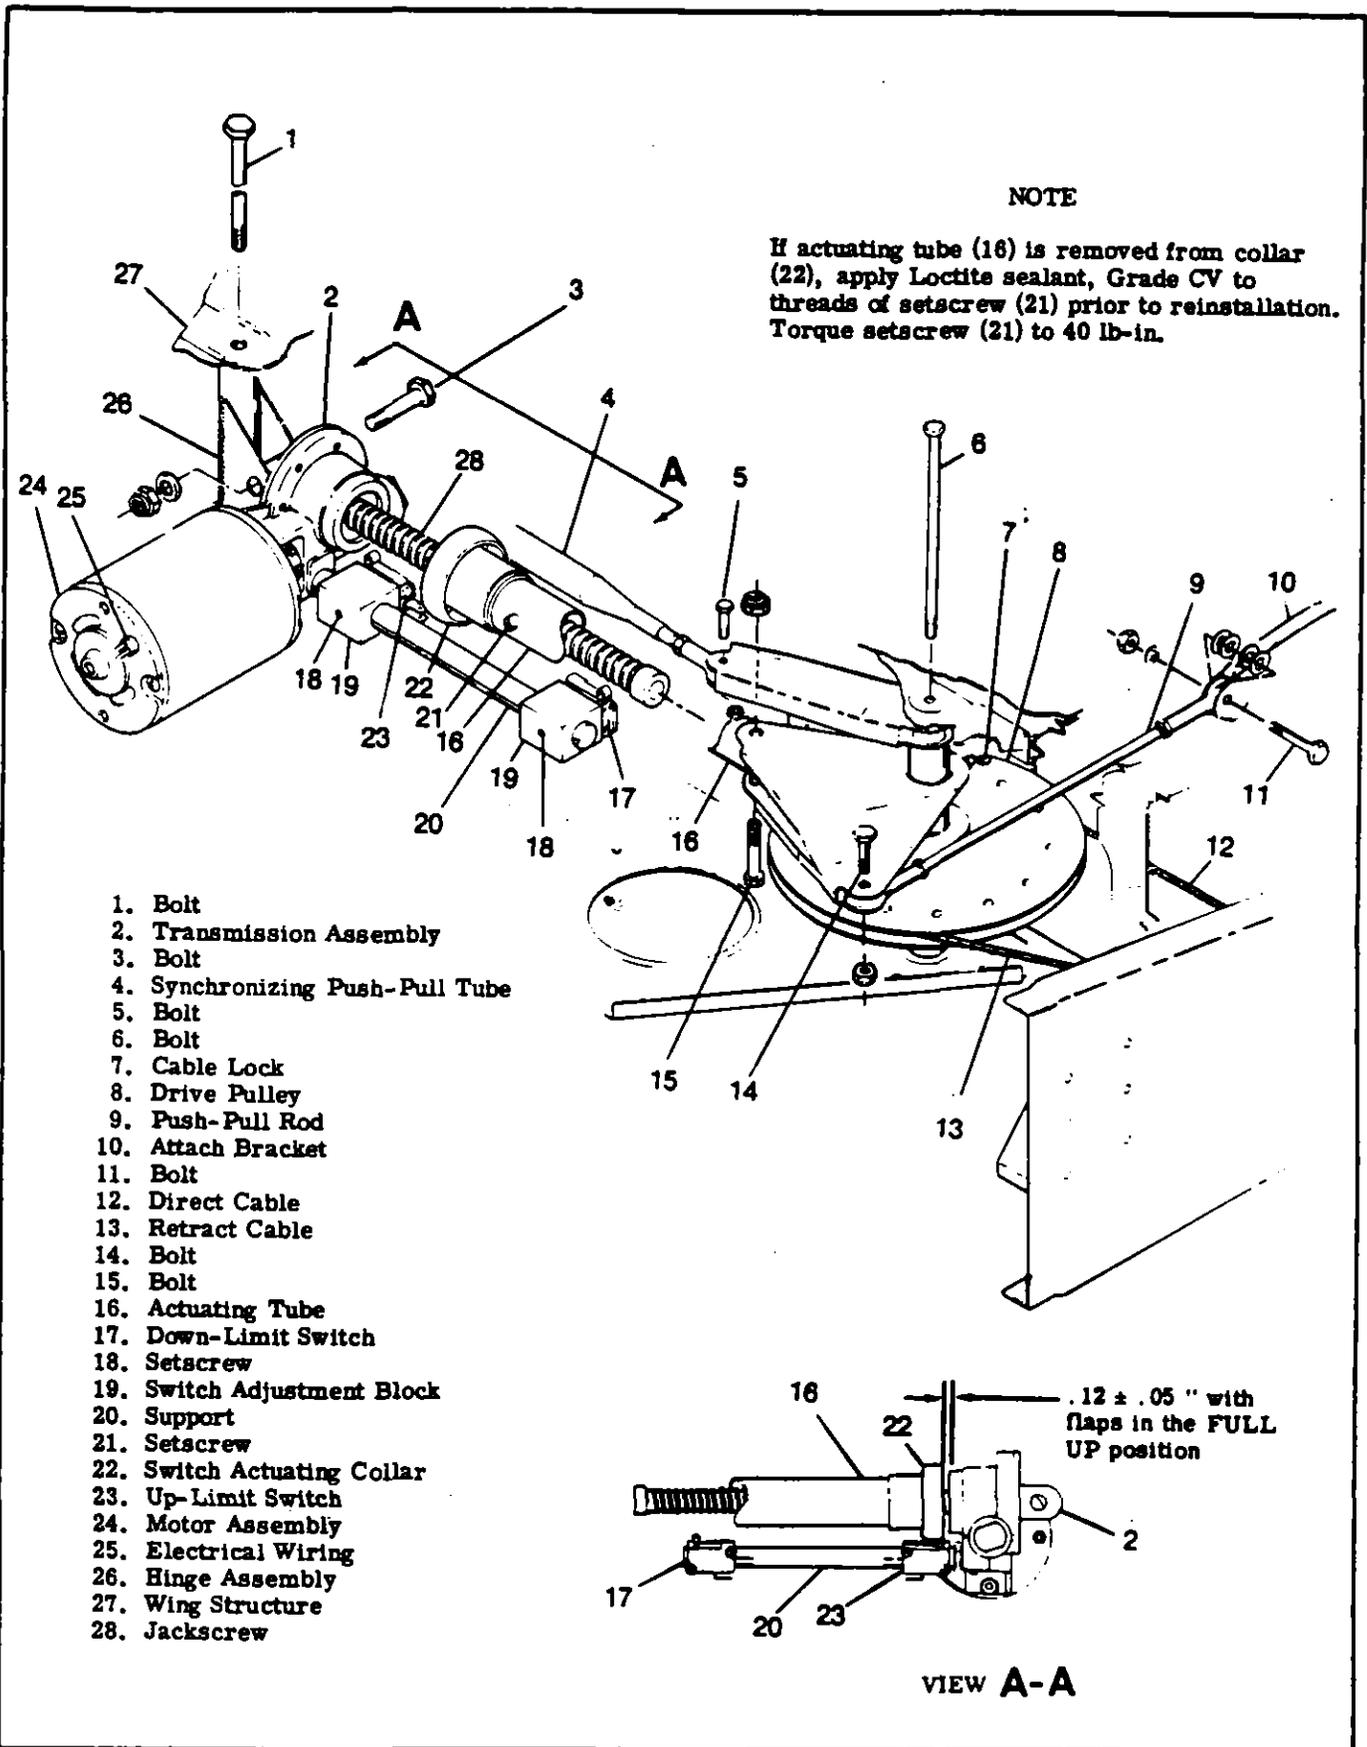
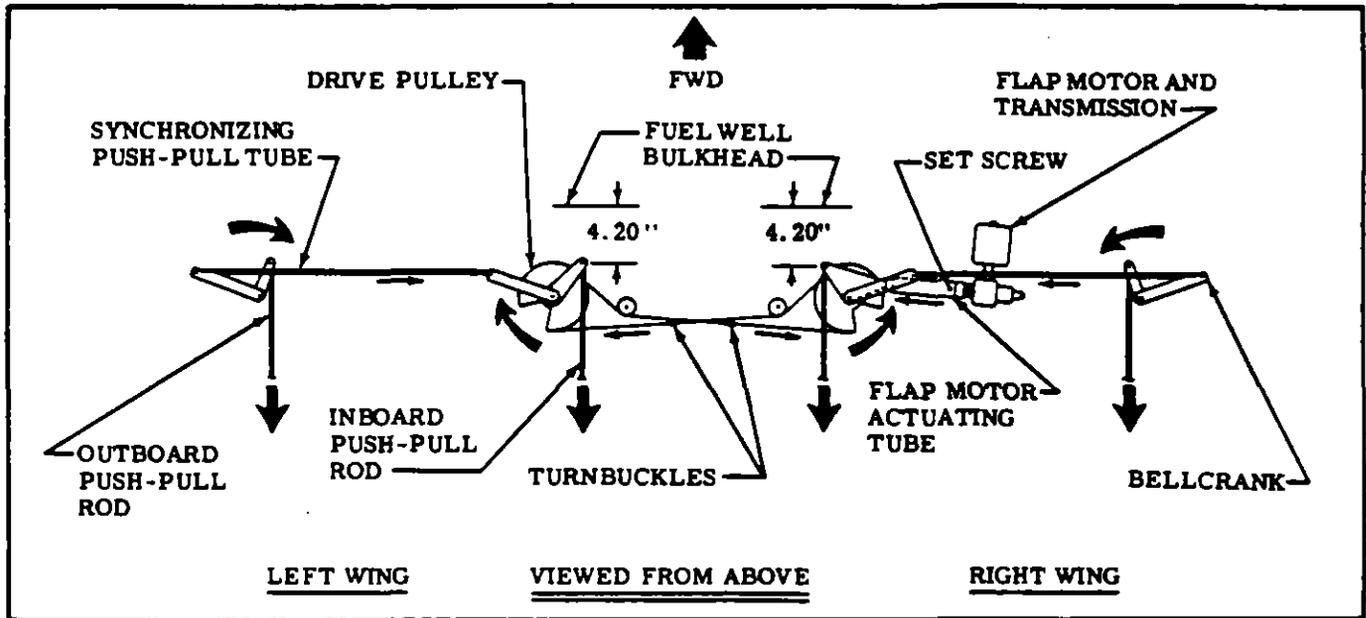

Figure 7-2. Flap Motor and Transmission Installation
Figure 7-5. Flap System Schematic
7-6. REMOVAL AND INSTALLATION (See figure 7-2.)
7-10. DRIVE PULLEYS. (See figure 7-2.)
7-21. RIGGING-FLAPS. (See figure 7-2.)
Ensure that the 3/32 inch retract cable is connected to the forward side of the right drive pulley and to the aft side of the left drive pulley and that the 1/8 inch direct cable is connected to the aft side of the right drive pulley and to the forward side of the left drive pulley. Ensure that the right drive pulley rotates clockwise, when viewed from below, as the flaps are extended. (See figure 7-5.)
- h. Adjust synchronizing push-pull tube (4) in RIGHT wing to 48.69 inches between centers of rod end holes, tighten jam nuts and connect to bellcrank and drive pulley.
- i. Adjust travel on flap motor so centerline of bolt hole for inboard push-pull rod is 4.20 inches aft of fuel well bulkhead. (See figure 7-5). Screw actuating tube (16) IN toward transmission (2) by hand to .12 inches between switch actuating collar (22) and transmission (2) see figure 7-2 VIEW A-A, loosen setscrew (21) securing actuating collar (22). Hold actuating collar to maintain .12 inches and adjust actuating tube IN or OUT as necessary to obtain 11.16 inches from centerline to centerline of actuator attach bolts (1) and (15) figure 7-2. Tighten setscrew (21) in accordance with figure 7-2 and secure actuating tube (16) to drive pulley (8) with bolt (15).
- j. Manually holding RIGHT flap full up, adjust push-pull rods (4) and (9) to align with drive pulley and bellcrank attachment holes. Connect push-pull rods and tighten locknuts.